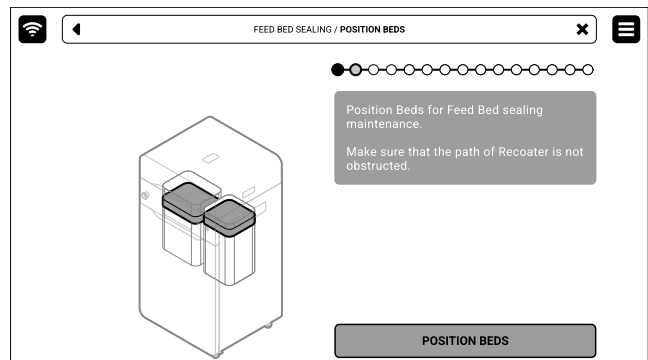

Fig. 13.39 The **POSITION BEDS** screen.
7. Press **POSITION BEDS** to begin the positioning process of the Beds (fig. 13.39).